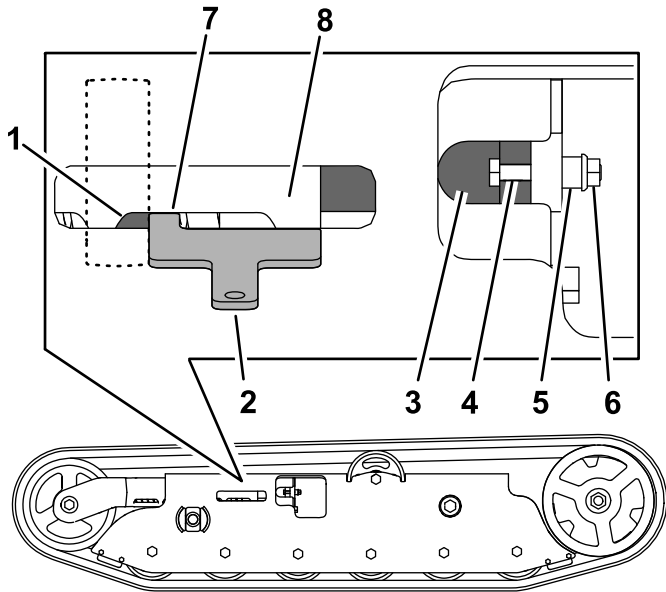
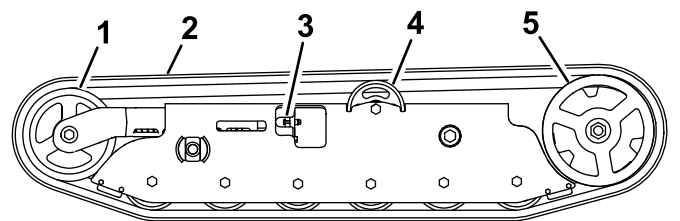

Figure 40
Figure 41
If you place the tab of the tensioning tool along the rear edge of the tension nut, the other end of the tensioning tool should align with the edge of the tension arm as shown in Figure 40. If the distance is not correct, adjust the track tension using the following procedure:
6. Remove the bolt (1/4 x 1-5/8 inches), spacer, and nut (Figure 40).
7. Turn the tensioning bolt to adjust the distance between the tension nut and the end tangent of the tension tube until the distance is correct, as shown in Figure 40.
8. Align the closest notch in the tensioning bolt to the bolt hole and secure the tensioning bolt with the bolt (1/4 x 1-5/8 inches), spacer, and nut (Figure 40).
5. Release the drive tension by turning the tensioning screw clockwise (Figure 40 and Figure 41).
7. When the track is off the front wheel, remove it from the drive sprocket and road wheels (Figure 41).
9. Beginning at the drive sprocket, coil the new track around the sprocket, ensuring that the lugs on the track fit between the spacers on the sprocket (Figure 41).
10. Push the track under the lugs and between the road wheels (Figure 41).